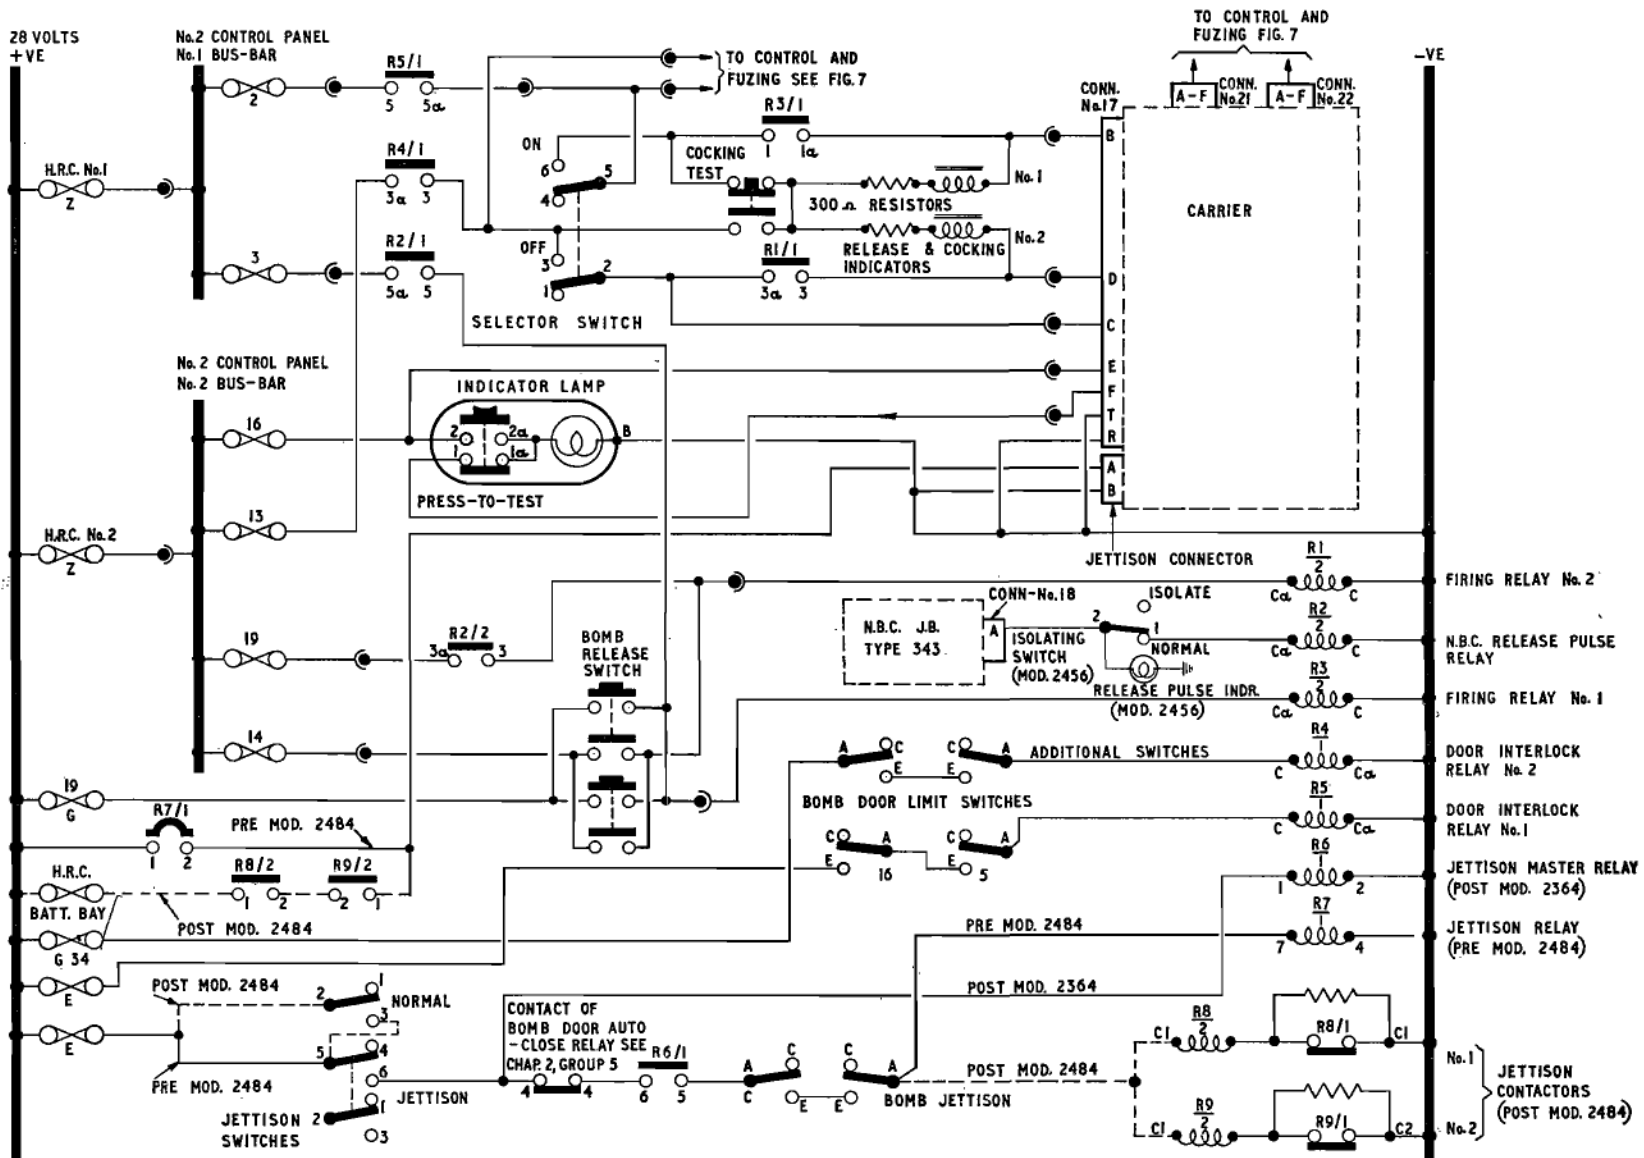

Fig. 6. No. 2 control panel role, bomb release (Mods. 2612, 2645, 2646 or 2725 and 2610)
Manual release (fig. 6)
N.B.S. Release (fig. 6)
Cocking test switch (fig. 6)
Indicator lamp (fig. 6)
Jettison release (fig. 6)
Post Mod. 2484 (fig. 6)